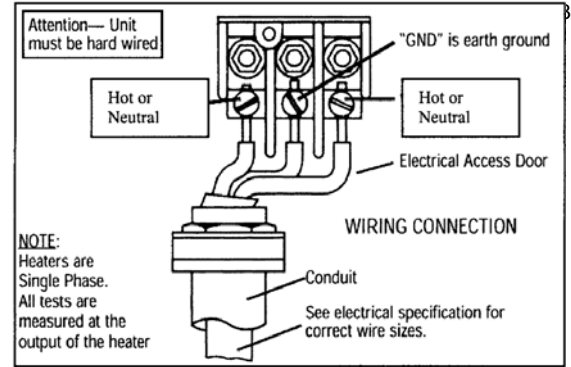

FIGURE 3 Wiring Connection
5. Connect wiring. Attach ground wire to center terminal and hot wires to outer terminals (See Fig. 3).